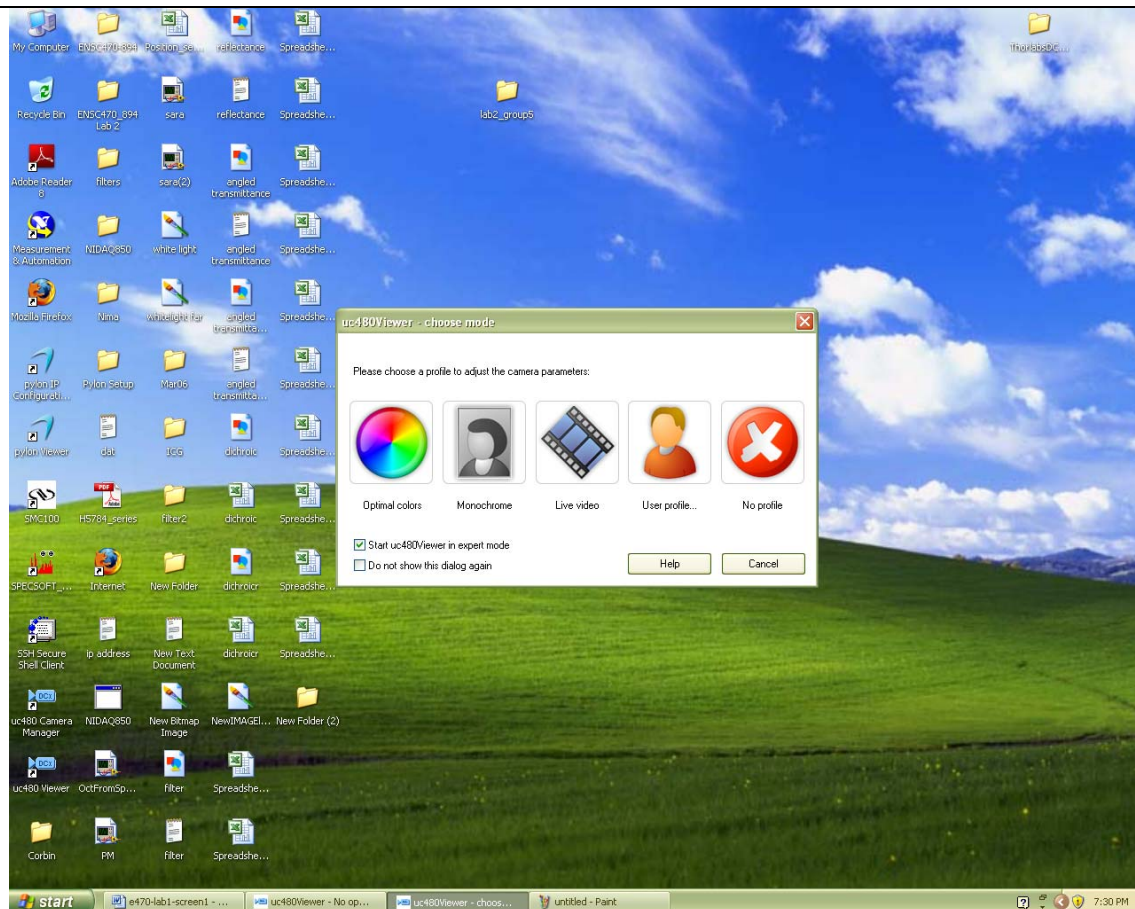

Figure 1: screen capture with uc480 Viewer in the startup mode
2. Click on the uc480 Viewer icon (left most side of screen, second from bottom) on the desktop to start the camera. See Figure 1. This brings up the start screen (Figure 1) and click on the Monochrome button to start the viewer.